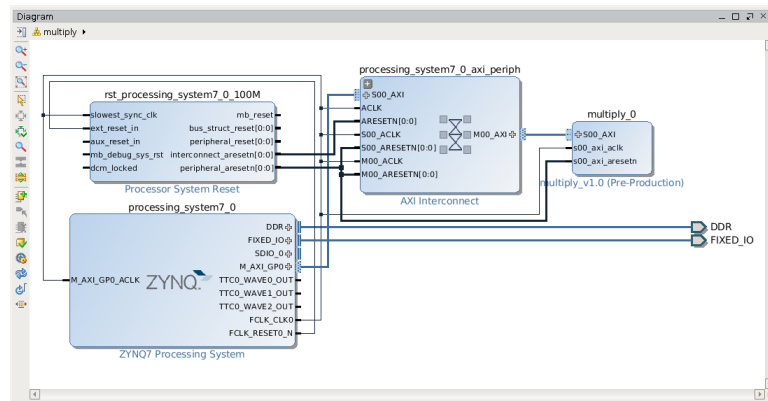

Figure 3: Base System Design
- (i) Run connection automation as shown in Lab 3. Now the base system should look like the one as in Figure 3